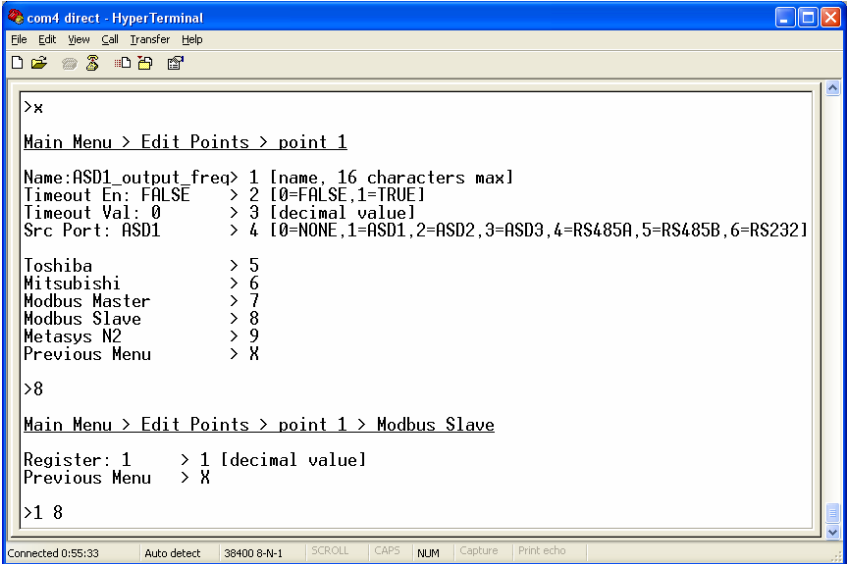

Figure 17: Edit Modbus Slave Attributes
- **Edit Register:** Menu selection 1 allows you assign a Modbus holding register to this point. Figure 17 shows an example of how to change the current setting of 1 to 8.